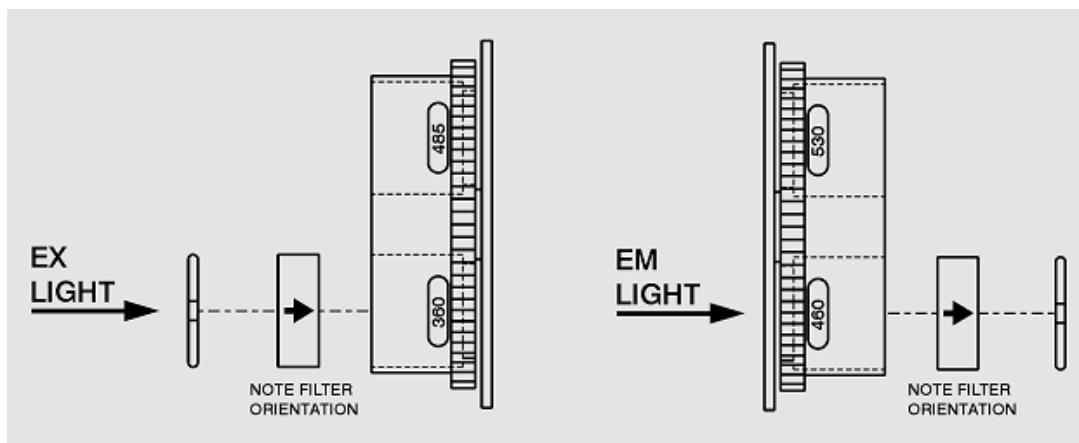

Figure 3-3: Diagram showing the proper orientation of the filters in their wheels
2. Properly orient the filter or plug (see *Figure 3-3* on page 32), and then drop it into the desired filter wheel location.